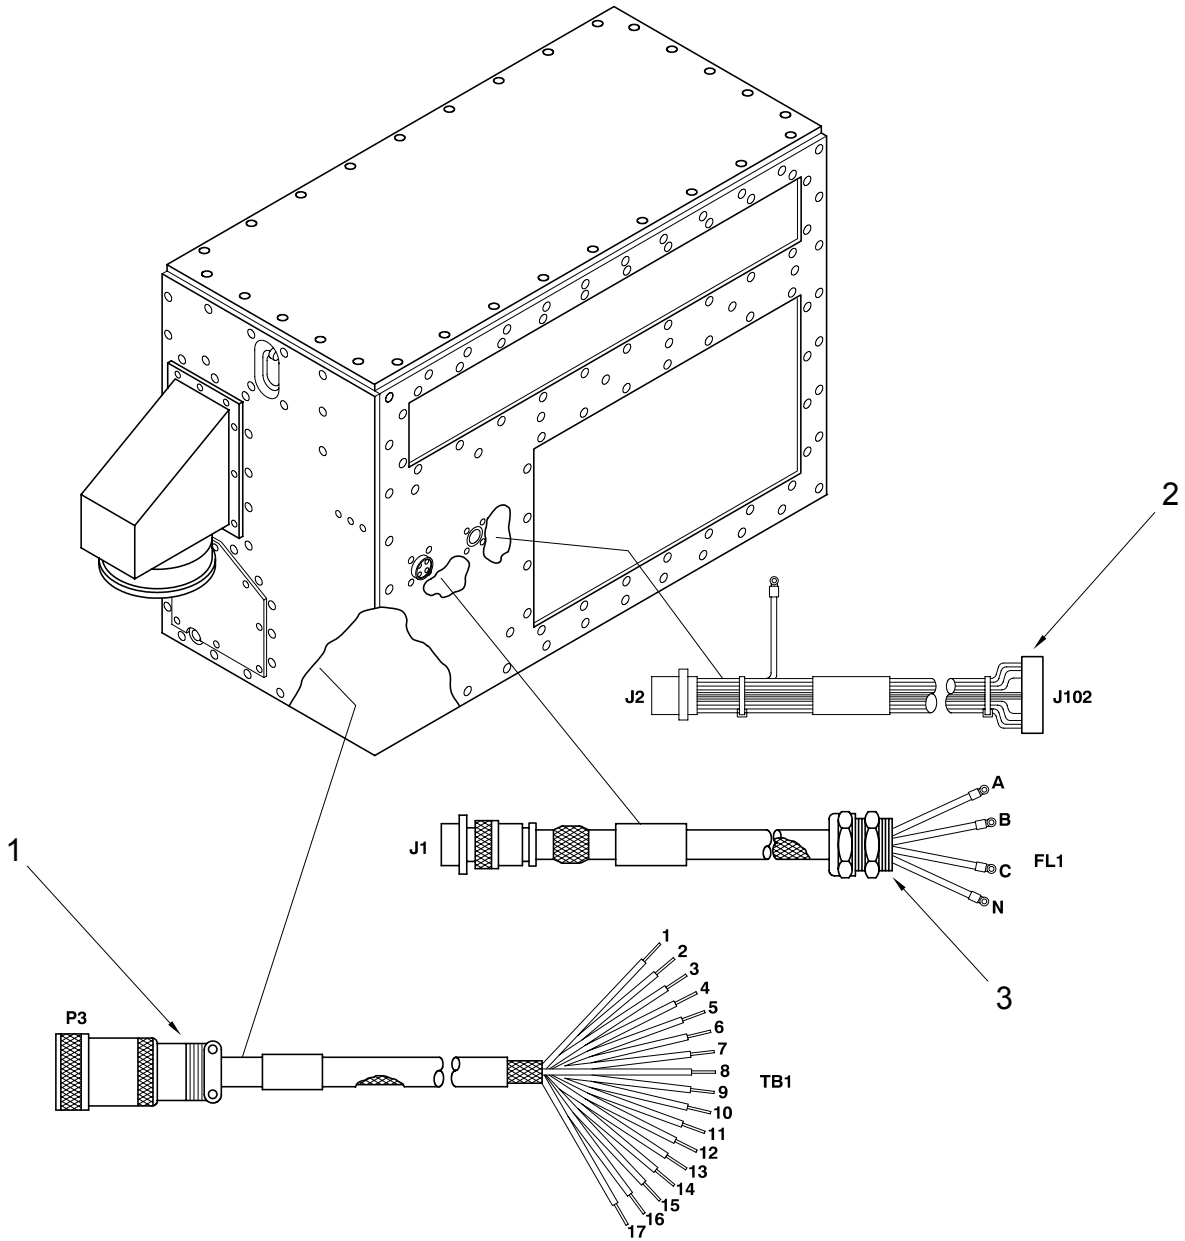

Figure 1. EVAPORATOR HARNESS ASSEMBLIES
1. To install cable harness P3 to TB1 (1), Install wiring in condenser junction box assembly where removed. See wiring diagrams (WP 0045 00, Figure 1). Connect P3 to J3 (See WP 0012 00, EVAPORATOR/CONDENSER ASSEMBLY - SEPARATION AND RECONNECTION) when reconnecting the evaporator and condenser assemblies.